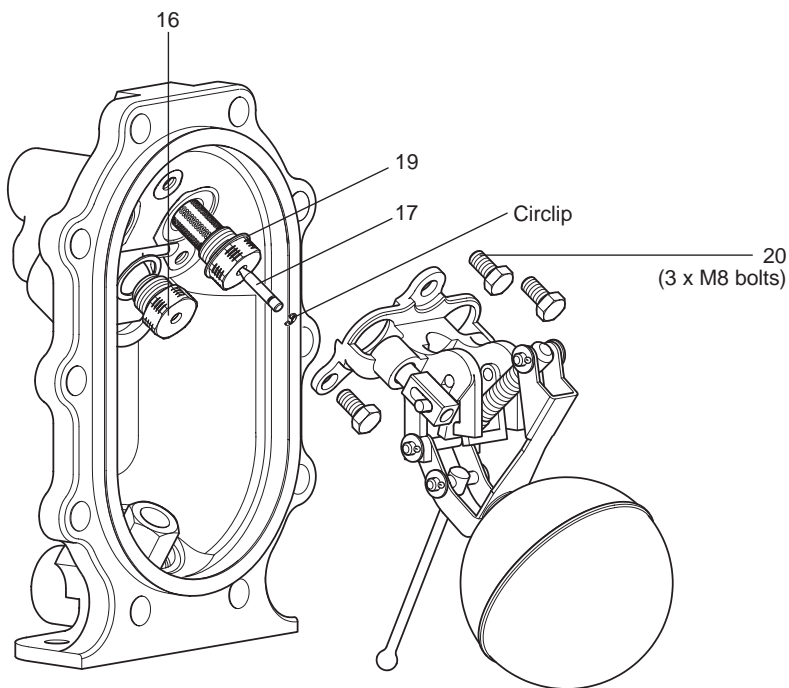

Fig. 2
9. Insert the replacement steam valve assembly (items 16 and 17) according to Fig. 2.
10. Place a new metal gasket (item 19) onto the threads of the seat before tightening into the cover.